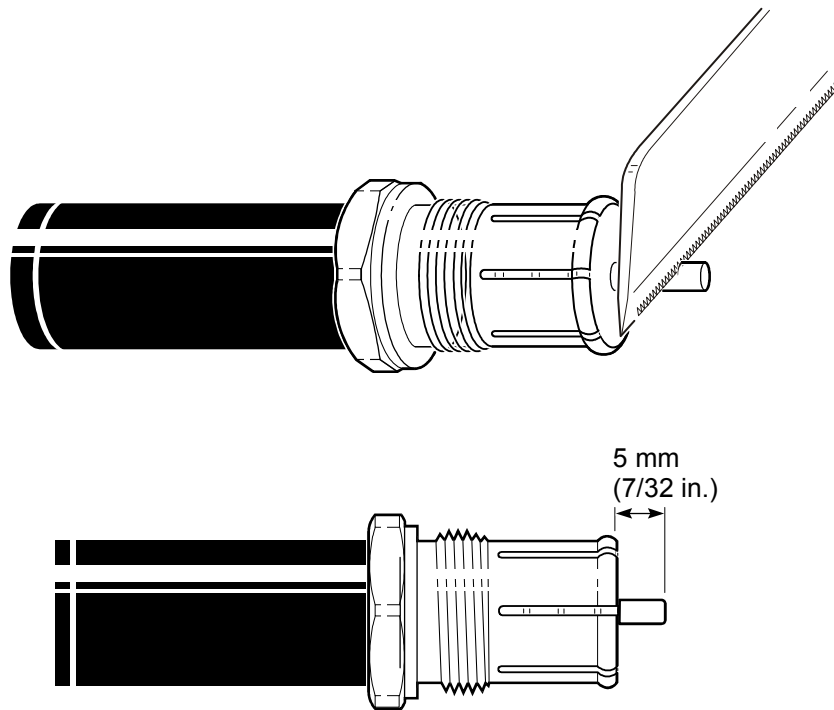

Figure 62 – Trimming the inner conductor
1. Use a fine-tooth saw to trim the inner conductor to 5 mm (7/32 in.) from the outer conductor and clamping nut fingers, as shown in *Figure 62*.